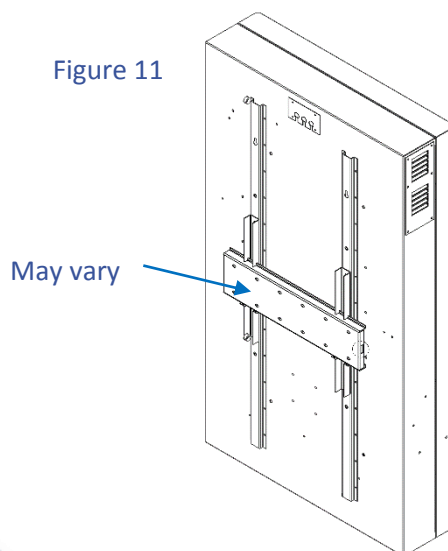

Figure 11
STEP 22: After making sure the enclosure brackets and wall plate are securely tightened, steadily lift the enclosure onto the wall plate and fit ensuring the brackets are slotted over the wall plates top lip and the enclosure doesn't touch the wall (Figure 11) – If necessary, reposition the bracket arms to accommodate more room.